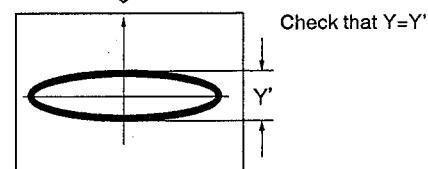

Fig. 2 Lissajous figure of the outer track of the disc (CD)
- Close the TRKG servo and search frame #100, then open the TRKG servo again to observe the Lissajous figure. At this time, check that the Y-axis amplitude of the Lissajous figure is the same as that noted in step 4. (Fig. 2)